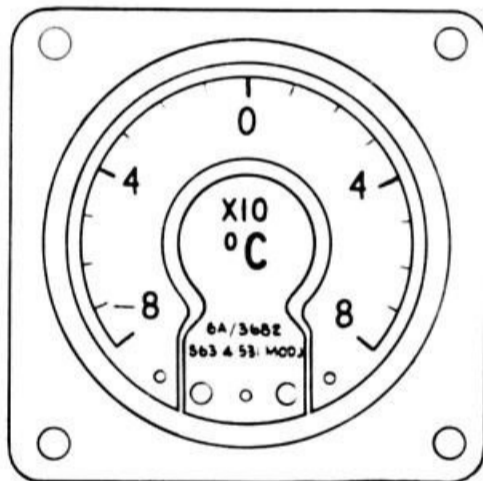

Fig. 1. Indicator, Type S63.4.531
1. This temperature indicator (Ref. No. 6A/3682) (fig. 1) is calibrated in degrees C from -80 to $+80$; the indicator is controlled by the variation of resistance with temperature of a resistance thermometer element which obeys a platinum law.